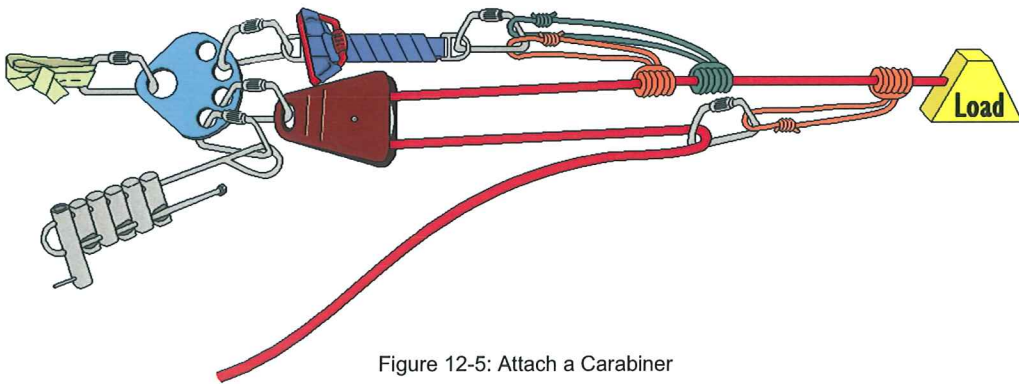

Figure 12-5: Attach a Carabiner
- Attach a carabiner through the prusik hitch and clip the belay/safety line into the carabiner. (Figure 12-5)